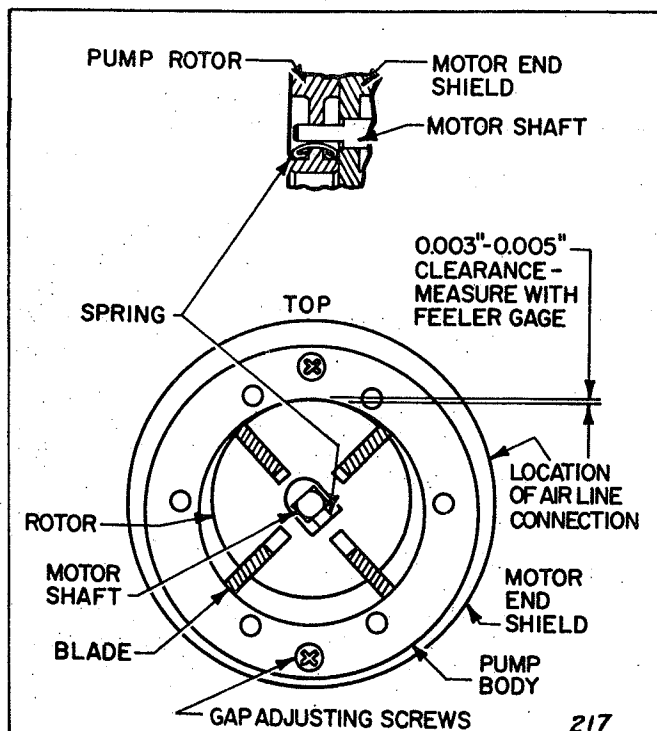

Figure 6. Air Pump Assembly and Rotor Clearance
a. Install the spring in the pump rotor as shown in Figure 6, then assemble the rotor on the motor shaft. Attach the pump body to the motor with the two screws which were removed.
b. Adjust the pump body to provide 0.003-0.005 inch clearance at the point shown in Figure 6. Measure the clearance with a feeler gage. Spin the motor by hand to be sure the rotor does not rub on the pump body. The proper clearance must be maintained. Be sure the screws are tight after adjusting the clearance.
d. Install the end cover, with the air line connection located as shown in Figure 6, using the four screws.